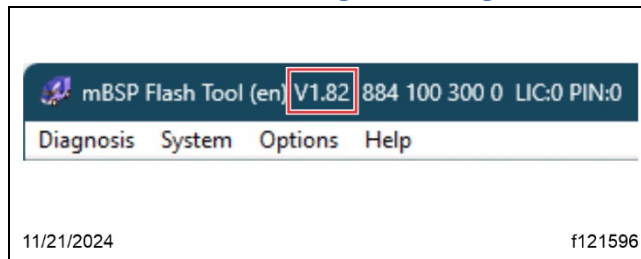

Fig. 21, mBSP Flash Tool Software Version
- An mBSP flash tool software version 1.90 (or later), as shown in Fig. 21, is required to perform this ABS ECU software update procedure.